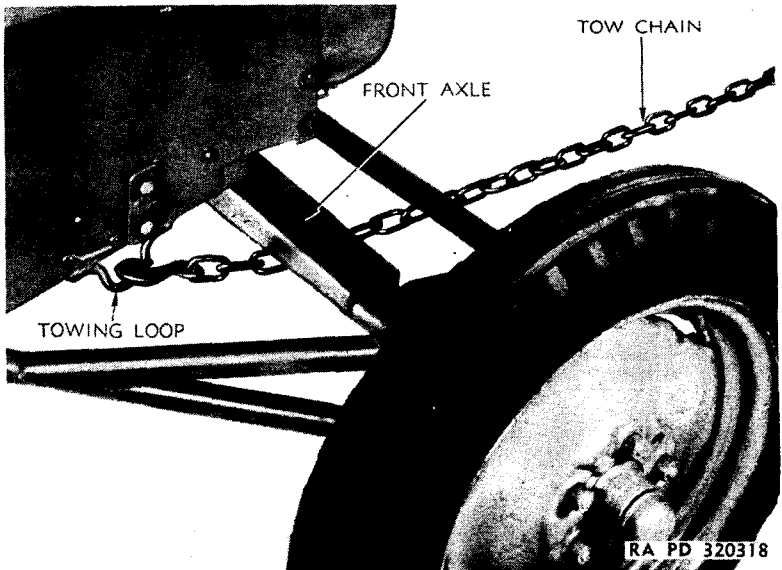

Figure 18—Tow Chain Hooked to Front of Vehicle
(1) Attach the tow chain, rope, or cable, to frame eyes which are located just behind front axle on under side of tractor frame (fig. 18), one on each side.
(2) Place both transmission and auxiliary transmission levers into high gear position.
(3) Turn on ignition switch, pull out choke, and depress clutch pedal.
(4) As vehicle is set in motion by towing, engage clutch slowly, and depress accelerator slightly at time engine starts to turn.